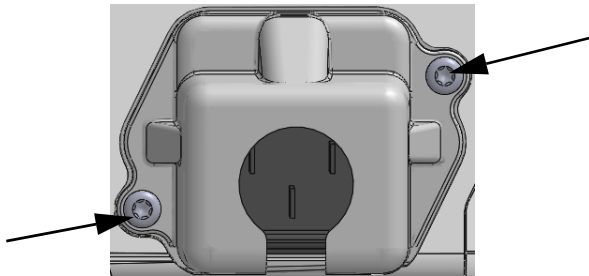

Figure 3-5 HemoSphere advanced monitor power entry cover - screw locations
- 1 If the power entry cover is already installed, remove the two screws (figure 3-5) that attach the power entry cover to the rear panel of the monitor.